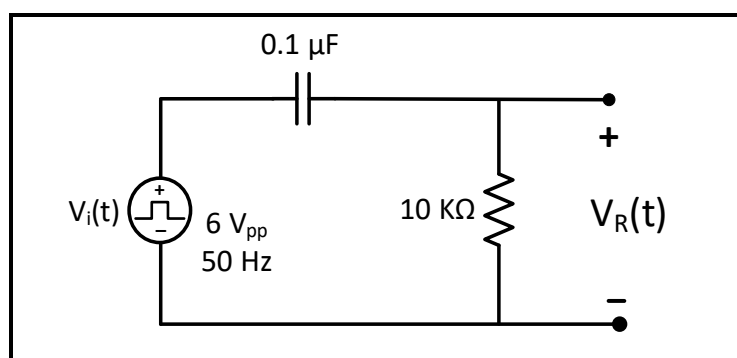

Figure 5.6
5. **Repeat steps 1-4 for the circuit of Figure 5.6**, but this time showing $V_R(t)$ instead of $V_C(t)$, and estimating the value of τ_R .